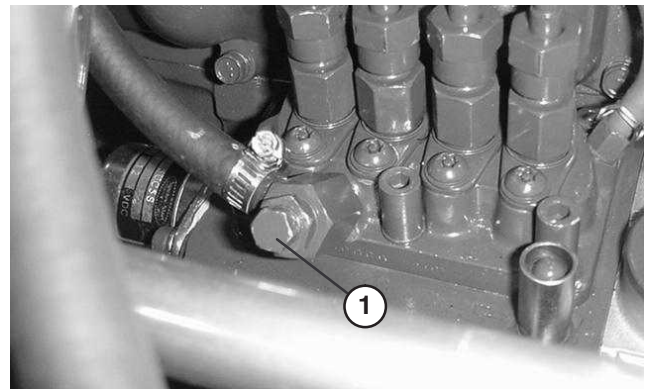

Figure 15
5. Open the air bleed screw on the fuel injection pump (Fig. 15).